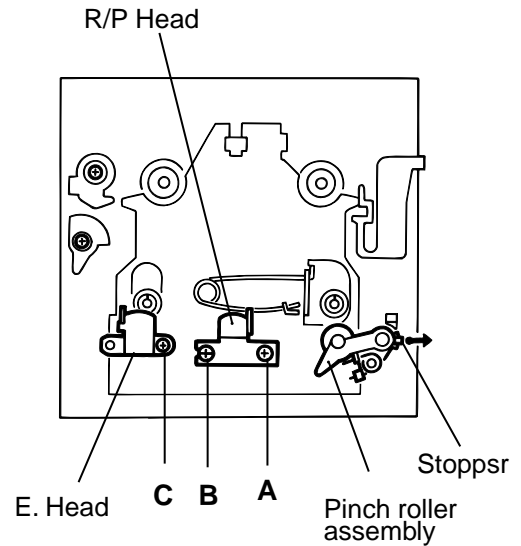
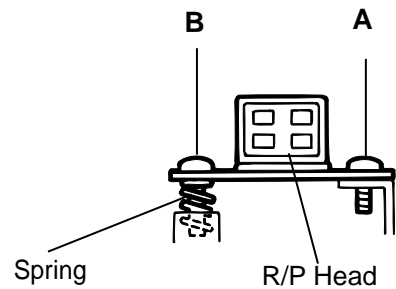

Fig.1
Fig.2
#### ■ Removing the feed motor (See Fig.1)
1. Remove the screw **A** on the right side of the R/P head.(Fig.1, Fig.2)
2. Remove the screw **B** on the left side of the R/P head.(Fig.1, Fig.2)
Remove the screw **C** fixing the erase head.(Fig.1)